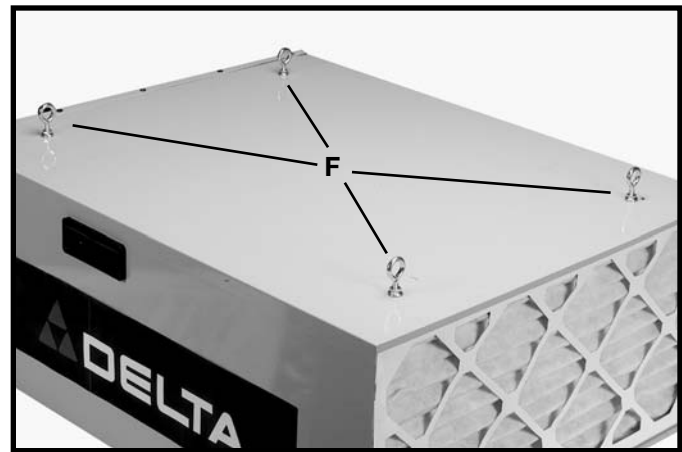

Fig. 6
5. Fig. 6 illustrates the four eye bolts (F) attached to the top of the air cleaner. **NOTE:** Be certain that the flange nuts are tightened against the surface of the air cleaner.